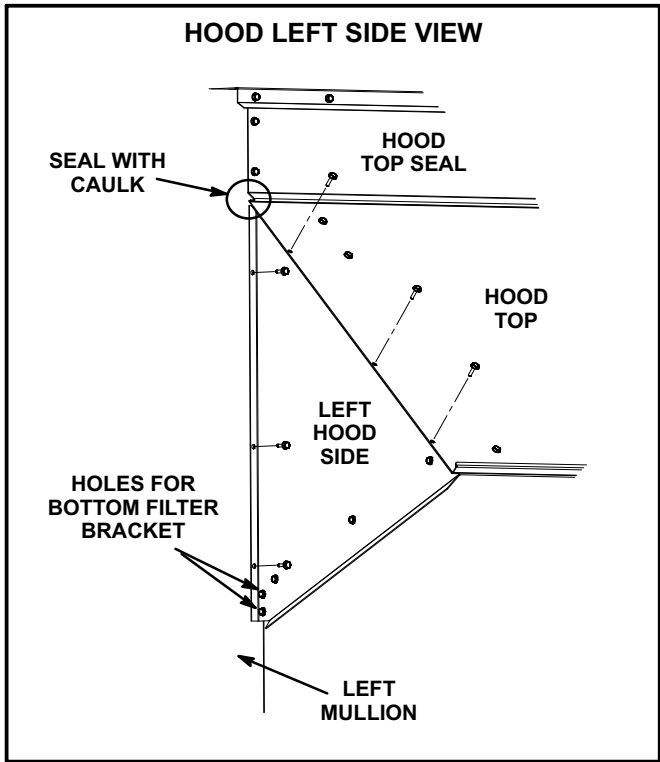

FIGURE 13
- 9- Secure left hood side to the hood top. See figure 13. Secure the left hood side to the unit using three screws removed in step 4. See figure 13.
- 18- Caulk (field-provided) both ends of the top seal and hood top as shown in figures 13 and 14.